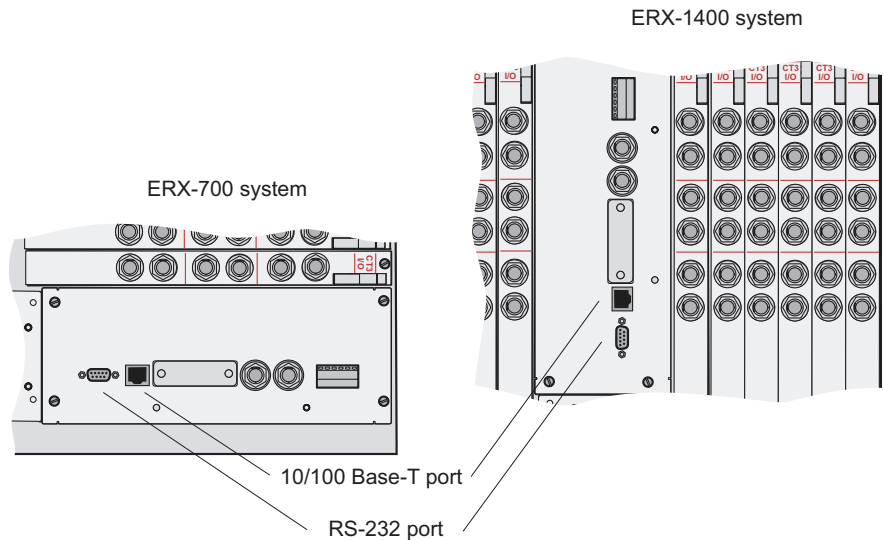

Figure 5-1 ERX-700 series and ERX-1400 series management ports
- 1 Connect the female DB-9 connector to the RS-232 port on the system's SRP I/O module. See Figure 5-1.